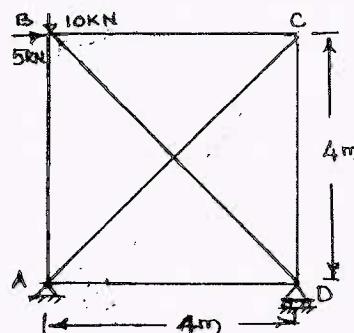

Fig.Q8
- 8 Analyse the pin jointed plane truss shown in Fig.Q8 by using flexibility matrix method. Assume $\frac{L}{AE}$ for each member = 0.025 mm/kN. Tabulate the member forces.